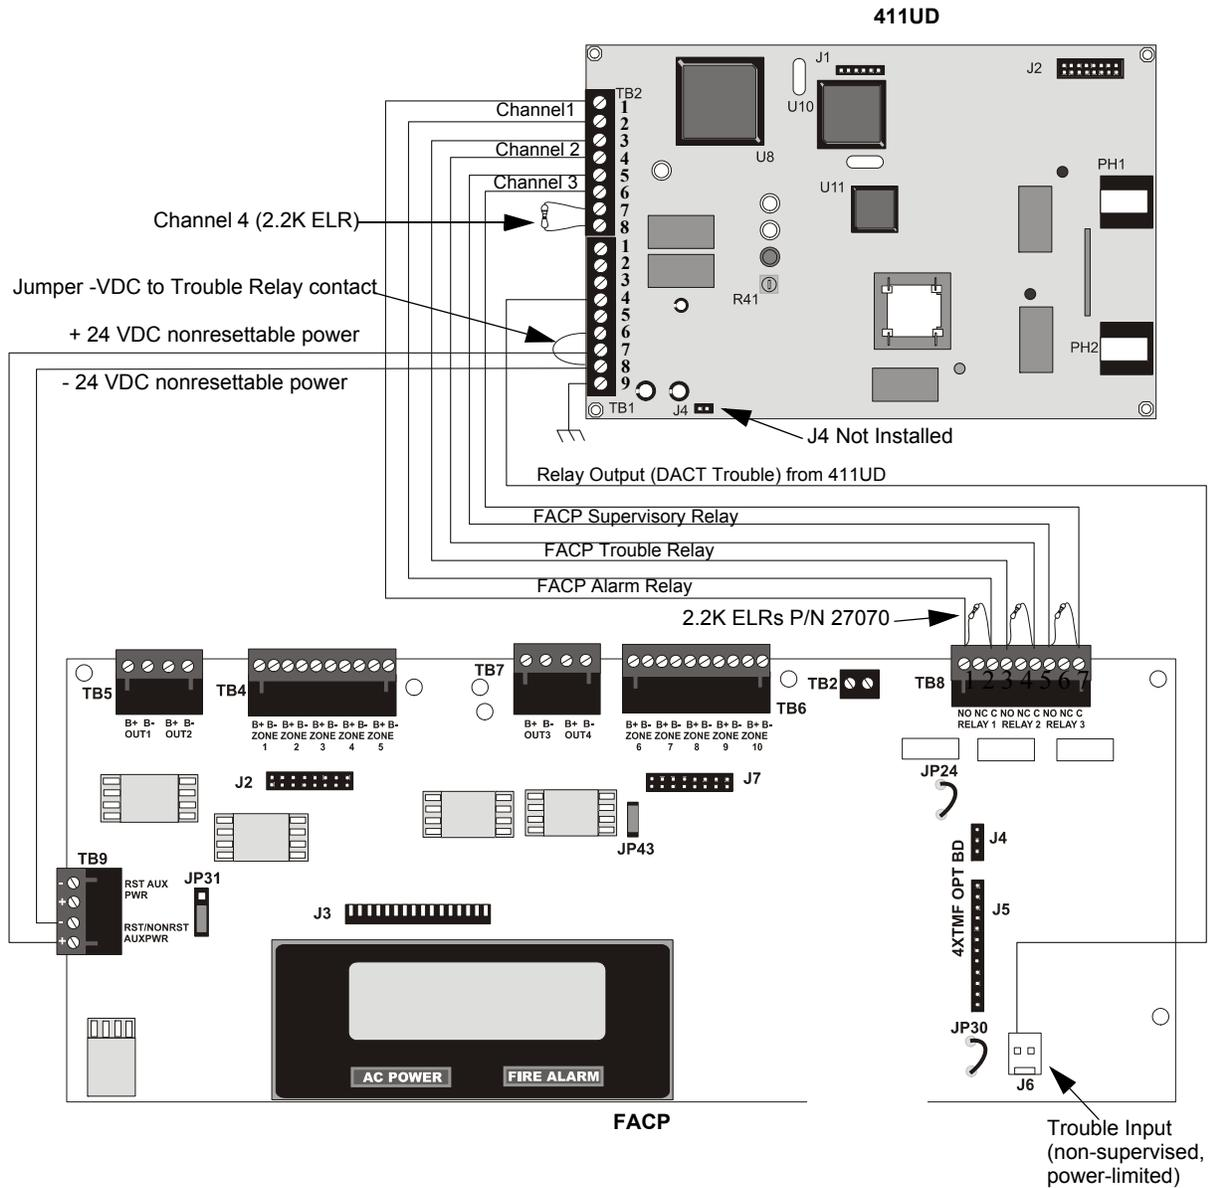

Figure B.1 MS-5UD/MS-10UD FACP Connection to 411UD
411UD may be installed as illustrated in Figure B.1, “MS-5UD/MS-10UD FACP Connection to 411UD,” on page 146.
5. Any zone of the 411UD can be wired to function as alarm, trouble or supervisory. In Figure B.1 on page 146, Channel 1/Zone 1 is wired to the control panel's alarm relay, Channel 2/Zone 2 is wired to the control panel's trouble relay and Channel 3/Zone 3 is wired to the control panel's supervisory relay.